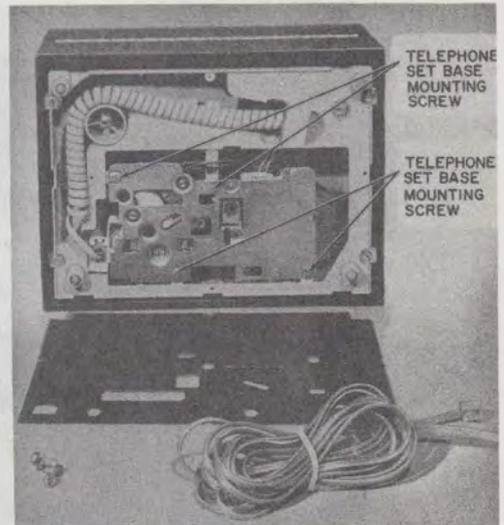

Fig. 5—881C- or 2881C-Type Telephone Set With Bottom Cover Removed
- (3) Pull cord, attached to the handset, out through the top of the telephone set base.
- (4) Remove four telephone set base mounting screws and withdraw the base (Fig. 5).